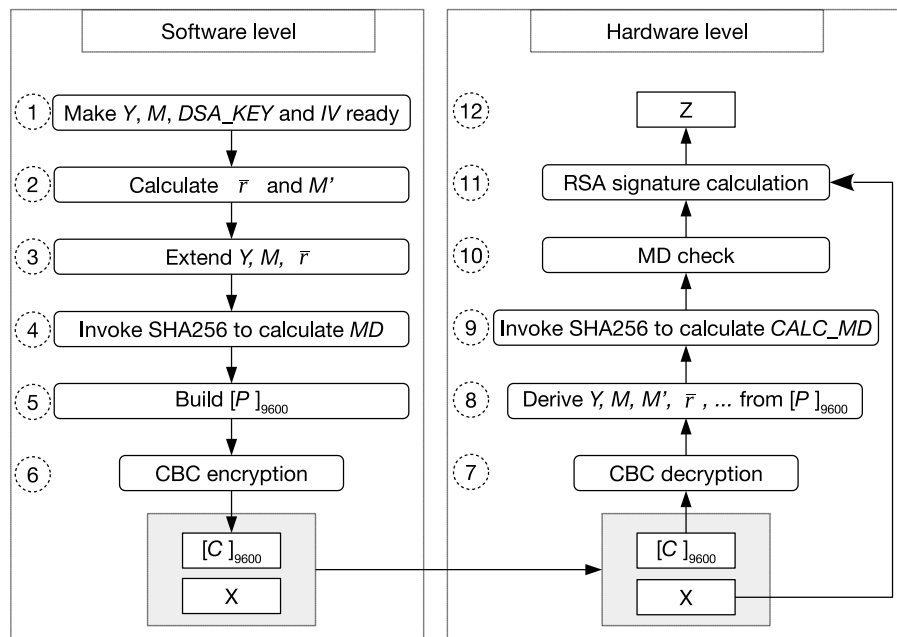

Figure 27.3-1. Software Preparations and Hardware Working Process
1. The software preparation (left side in Figure 27.3-1) is a one-time operation before any signature is calculated, while the hardware calculation (right side in Figure 27.3-1) repeats for every signature calculation.
Users need to follow the steps shown in the left part of Figure 27.3-1 to calculate C . Detailed instructions are as follows:
1. Decryption: Step 7 and 8 in Figure 27.3-1
The decryption process is the inverse of Step 6 in Figure 27.3-1. The DSA module will call the AES accelerator to decrypt C in CBC block mode and get the resulting plaintext. The decryption process can be represented by $P = \text{AES-CBC-DEC}(C, DSA_KEY, IV)$, where IV (i.e., $[IV]_{128}$) is defined by the user. $[DSA_KEY]_{256}$ is
2. Check: Step 9 and 10 in Figure 27.3-1
The DSA module will perform two checks: MD check and padding check. The padding check is not shown in Figure 27.3-1, as it happens at the same time as the MD check.
3. Calculation: Step 11 and 12 in Figure 27.3-1